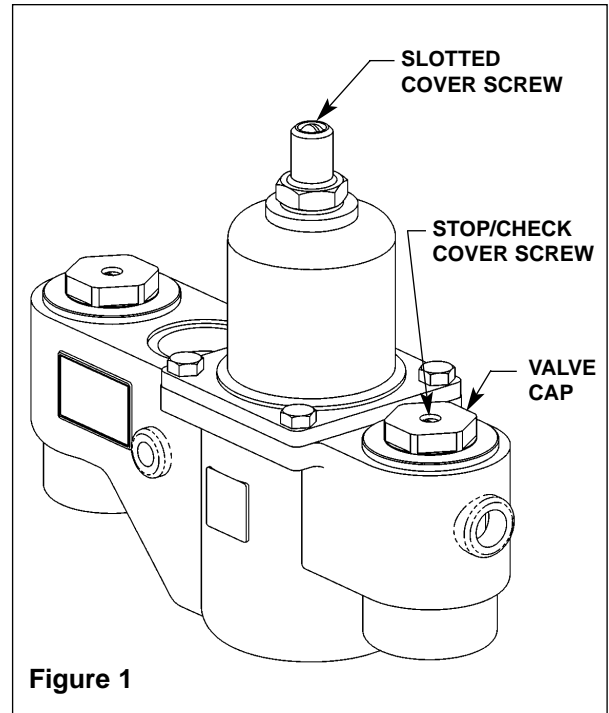

Figure 1
*NOTE:* When the check valves are in the OPEN (operating) position, the cover screw for the stop/check stem will be flush with the valve cap (see Figure 1).
- make sure that the check valves are fully open (the slotted stem must be flush with the stop/check cap) (see Figure 1 on page 3) and that all inlet and outlet shut-off valves are open